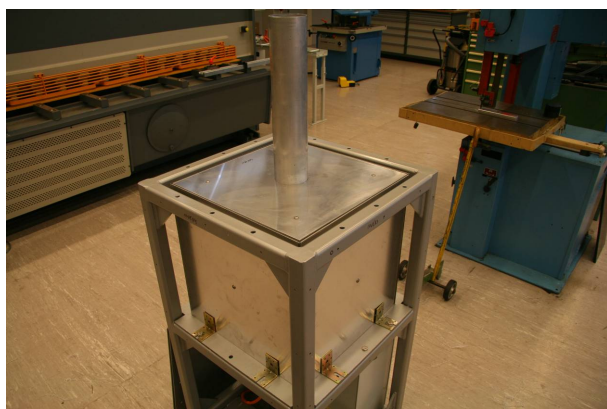

Figure 18: L-shaped supports added.
4. Install L-shaped supports at the bottom using M10x80 bolts (Figure 18).